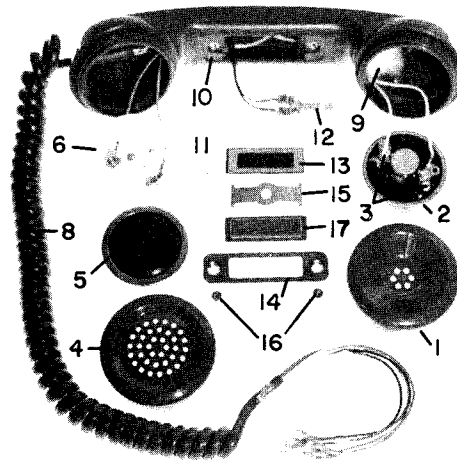

Fig. 4-1 COMPONENT PARTS - EXPLODED VIEW
4.1 The exploded view of Fig. 4-1 shows all the component parts of the handset. Disassembly and assembly procedures are given below.
5.2 The various component parts of the handset are listed in Table 5-1. The item numbers shown in the list correspond with those used to identify the various parts in the exploded view of Fig. 4-1.